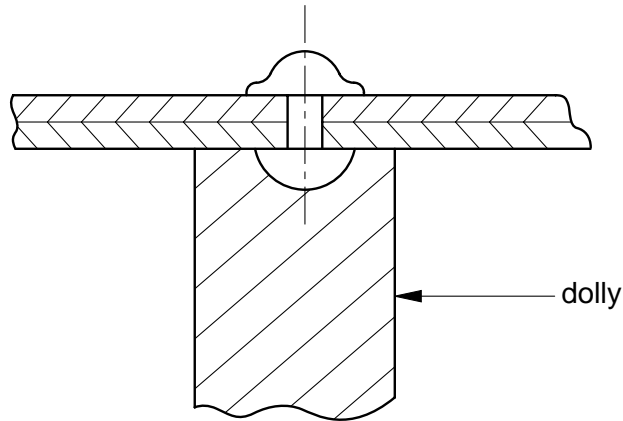

Fig. 4
- (v) A rivet becomes mis-shapen, as shown in Fig. 4, when using a snap. [2]